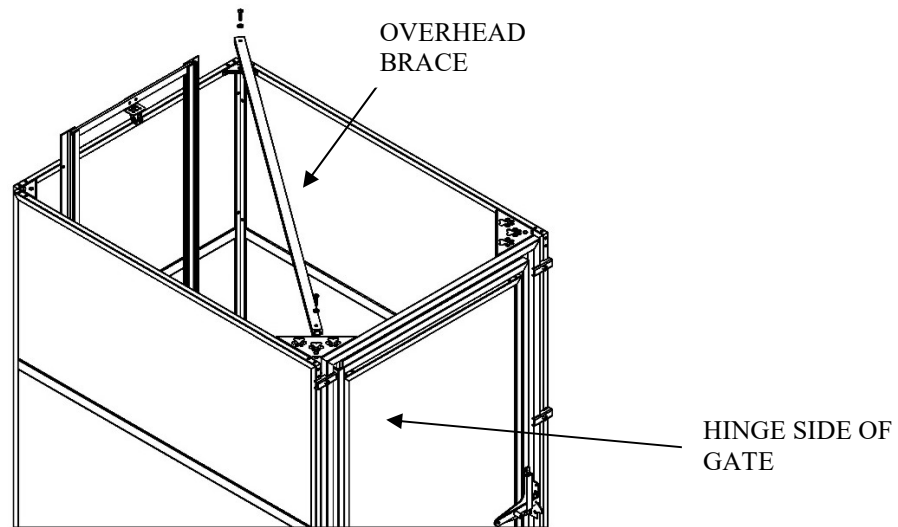

Figure 18
1. Place overhead brace diagonally on top of the previously installed gussets. The front of the brace should be on the hinge side of the gate as shown in Figure 18.